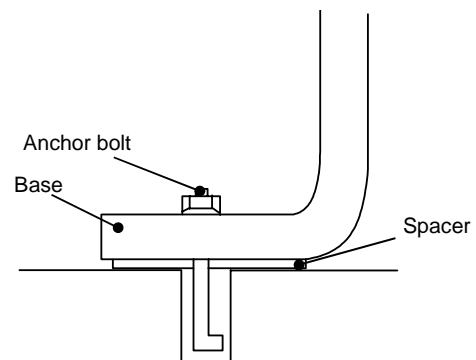

Figure 3
3. Insert a spacer between the concrete surface and the bottom of the base to level the pump horizontally. Next put a level on the discharge flange surface to adjust the pump horizontally in the direction of the pump shaft. Also adjust the direction vertical to the pump shaft at the same time by placing a level on the suction flange surface. Pour cement mortar into the anchor bolt holes after leveling has been completed. When the cement mortar is hardened, fasten the anchor bolt nuts firmly. (See Figure 3).